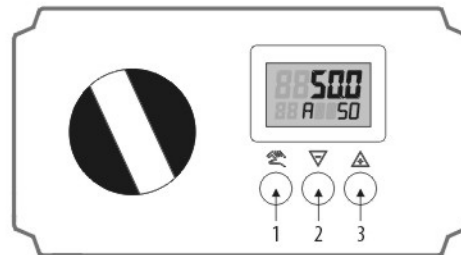

Fig.10 Operating interface
**Keys:** There are three keys on positioner. As shown in Fig10: